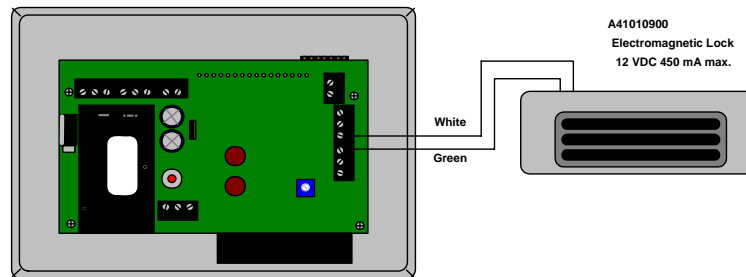

Figure 7-11 Advantage 1000DE to a Single Delayed Egress Switch Connections
**Connecting single Delayed Egress switch to the Advantage 1000DE Panel:** Refer to the manufacturer's instructions provided with the lock for proper mounting of the lock. Refer to Figure 7-11 for connection to the Advantage 1000DE panel. Use SCP Part #440 (20AWG, four-conductor) cable for the connection. The green and white conductors are used for connection of the delayed egress switch.. When using the Dortronic lock adjustment may need to be made to the thumb wheel on the lock armature for proper delayed egress operation.